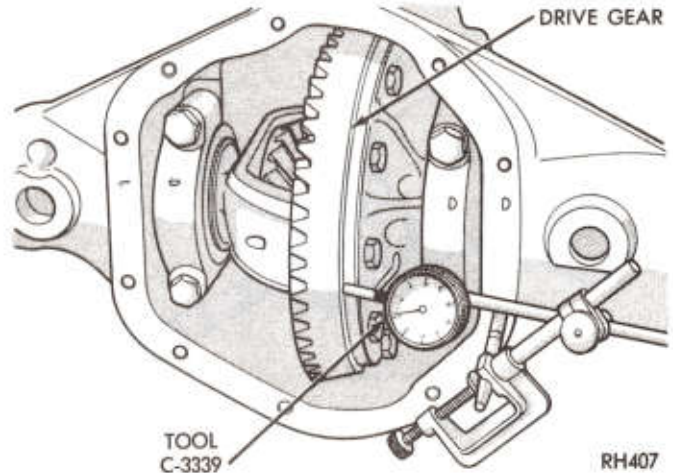
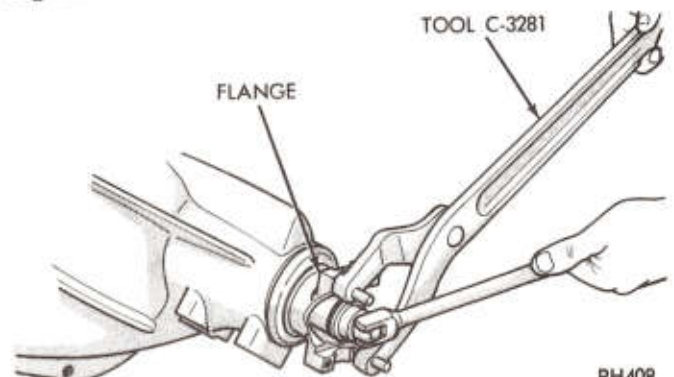

Fig. 1—Checking Drive Gear Runout
Fig. 2—Servicing Companion Flange Nut (Typical)
(1) Thoroughly clean differential gears, bearings and other internal parts with a suitable solvent.
(2) Install dial indicator Tool C-3339 (Fig. 1) and check the back face of the drive gear for runout. A reading in excess of .006 inch (.152mm) might indicate loose drive gear or a sprung differential case.
(3) Check clearance between differential bearing cap and bearing cup by prying against drive gear. A .003 inch (.076mm) feeler should not enter between bearing cap and cup. A clearance of more than .003 inch (.076mm) could be caused by the bearing cup having turned in the carrier, causing excessive wear.
(4) Remove nut from drive pinion shaft, holding companion flange with Tool C-3281 (Fig. 2).